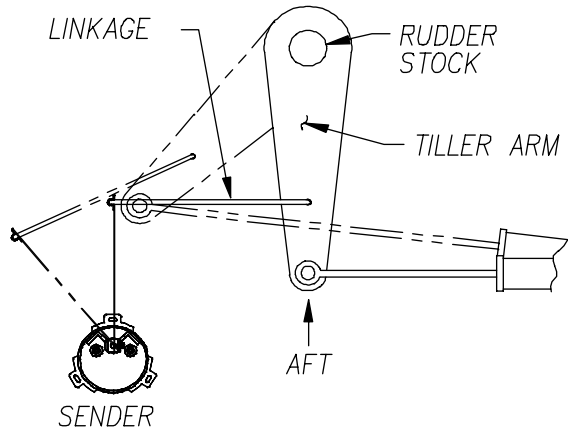

Figure 1
1.) The sender may be used with any type of steering. In most installations the sender arm will be pointed aft. A typical installation is shown in Figure 1.